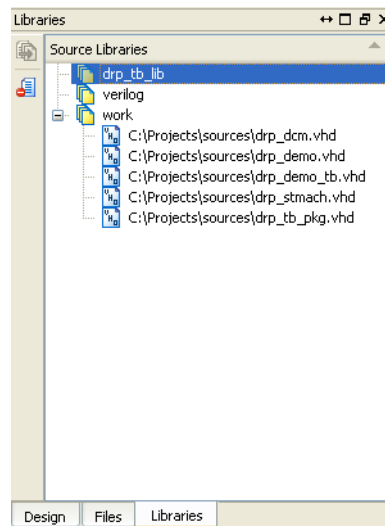

Figure 2-13: Select the Libraries Tab
1. In the Sources Pane, select the Libraries tab to switch to the Libraries Pane. (Refer to Figure 2-13.)
2. Expand the work library by clicking once on the hierarchy separator (Refer to Figure 2-13.)